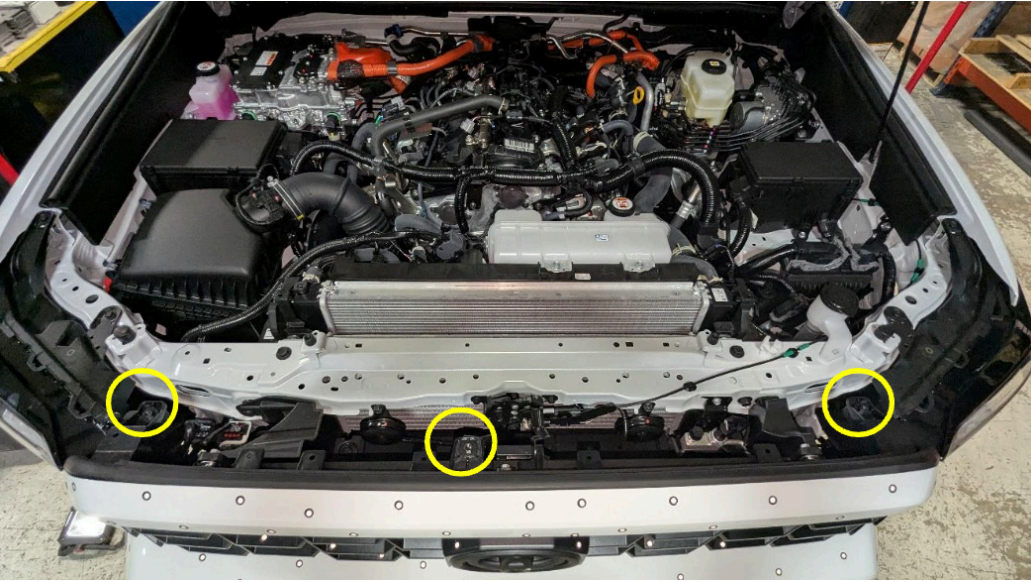

Figure 16
9. Using a 10mm socket wrench, remove the three (3) screws from the top of the grille. (Figure 16)